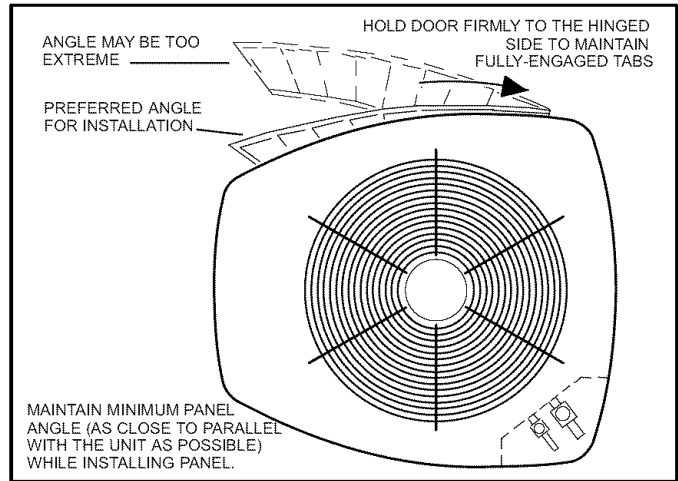

Figure 13. Removing/Installing Louvered Panels (Detail D)
1. Position the panel almost parallel with the unit as illustrated in figure 13, detail D with the screw side as close to the unit as possible.